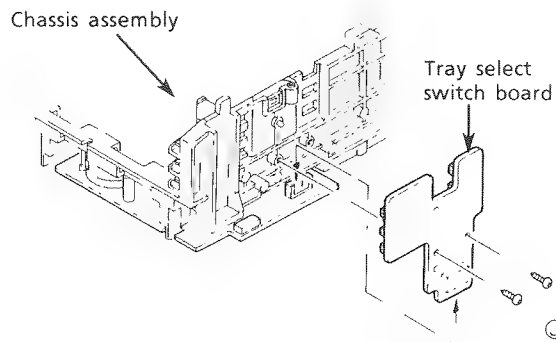

Fig. 40
5. Remove 2 screws ④ securing the tray select switch board. (See Fig. 40.)